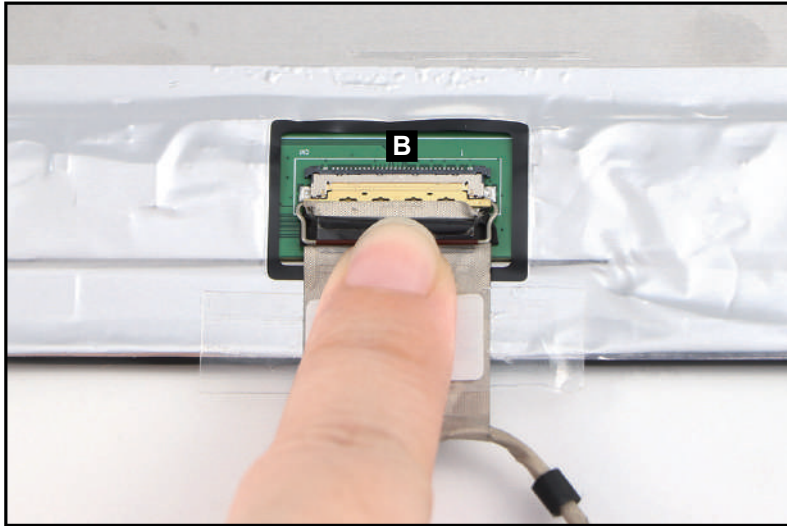

Figure 3-96. Replacing the LCD Panel
2. Place the LCD panel on a flat surface with the back side facing up. Then connect the LCD cable to the LCD panel connector (B) (Figure 3-96).